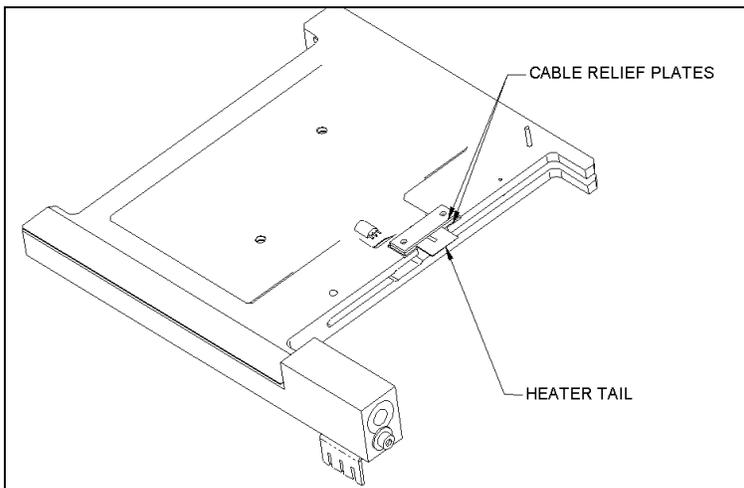

Figure 9-24 Plate Carrier/Heater
- Attach the heater to the plate carrier using the adhesive backed section of the heater pad (Figure 9-24).